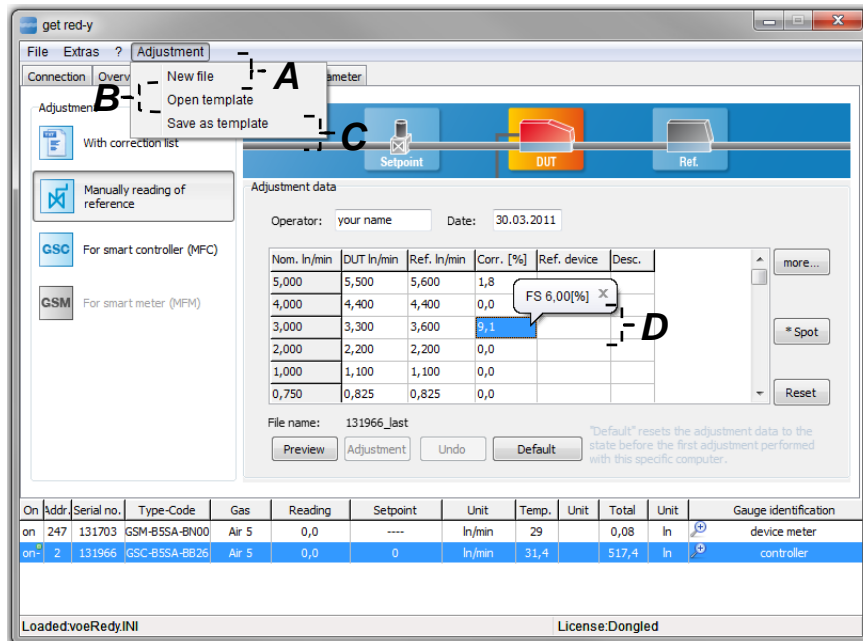

Figure 20: Displays the menu items in the Adjustment tab
- D. From End Value:** The values in the [Cor. [%]] column in the Table in Figure 20 represent the measurement value errors in percentages. When you select a row the end value errors are also given in percentages.